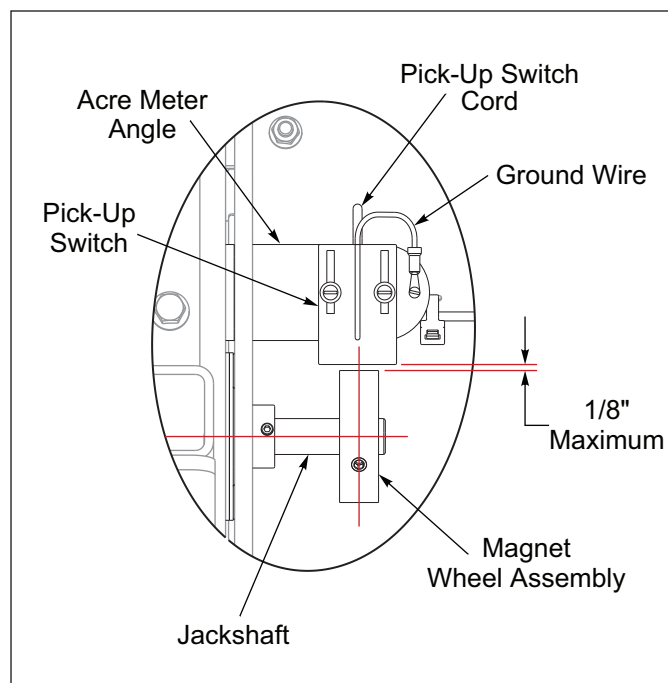

Figure 2-14: Acre Meter Mounting Dimension
4. Attach the Pick-Up Switch short ground wire to the small hole on the acre Meter Angle with a #6-32 x 1/2 Screw and Nut. Remove paint under the wire connector to assure a good electrical ground connection. **See Figure 2-14.**